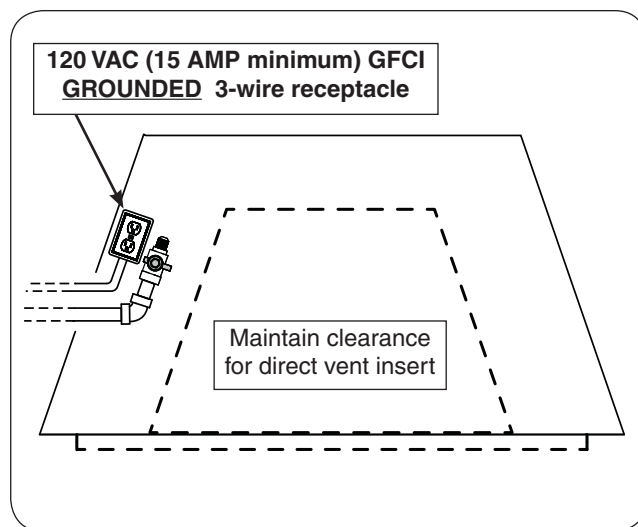

Fig. 23-2 Install electrical (receptacle)
1. Wire the receptacle as applicable into the vicinity of the fireplace (see Fig 23-2 for an example).